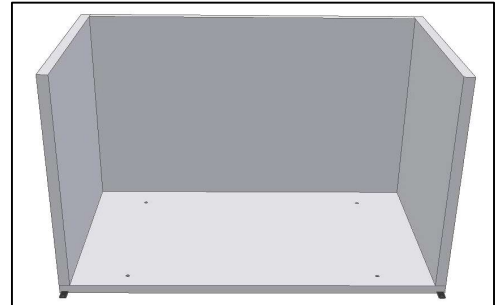

Fig. 4
- Fix the **side panels** to the panel of the bottom and fasten it to the the bottom and back panels (Fig.4);